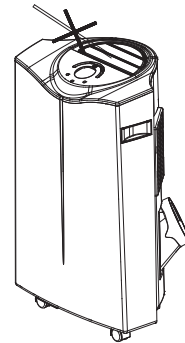

FIG. 2
- DO NOT PLACE OBJECTS ON THE UNIT, AND DO NOT COVER OR OBSTRUCT THE INLET OR OUTLET GRILLS (FIG 2).